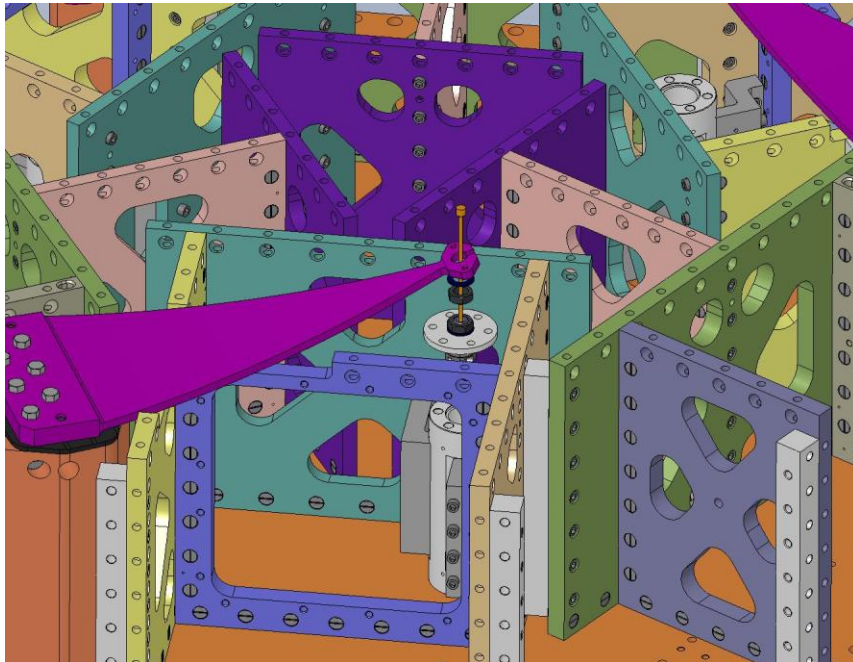

Figure 3.84. Pass the Flexure through the slot at the end of the Spring. Hold it in place during the next few steps.
- Pass a **Flexure Assembly** through the slot at the end of one of the **Springs**, as shown in Figure 3.84.